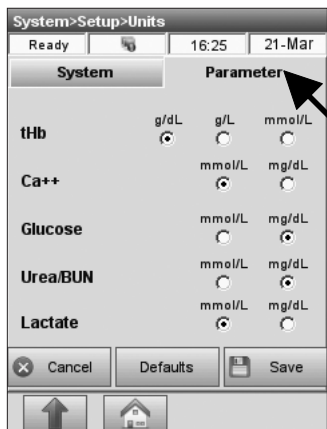

Fig. 3-68 Parameters
- Press the **<Parameter>** tab to go to the next screen (Fig. 3-68), and select the units for the remaining parameters.